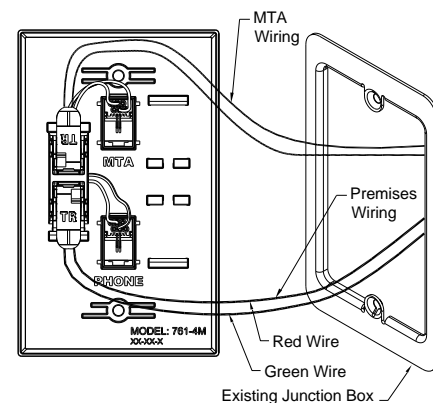

Figure 1
3. Turn the 761-4 so the IDC rocker is facing you (See Figure 1).
4. Pull up the top IDC rocker to the fully open position, insert MTA wires as shown in Figure 1 until they bottom out, do not strip wires.
5. For Loop-Thru applications, insert premises wiring to the bottom IDC as shown in Figure 1.